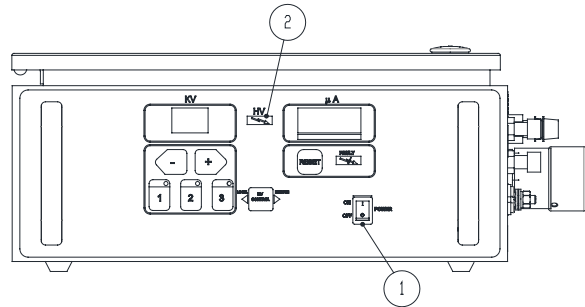

Figure 12: 9060 Power "ON-OFF" Switch
4. Turn the 9060 power "ON-OFF" switch on the front panel to the "ON" position as shown in Figure 12. The unit will power up, but high voltage will not be on at this point. because the voltage is interlocked to the electric motor through the "ON-OFF" switch on the applicator.
9060 POWER "ON - OFF" SWITCH (Figure 12)